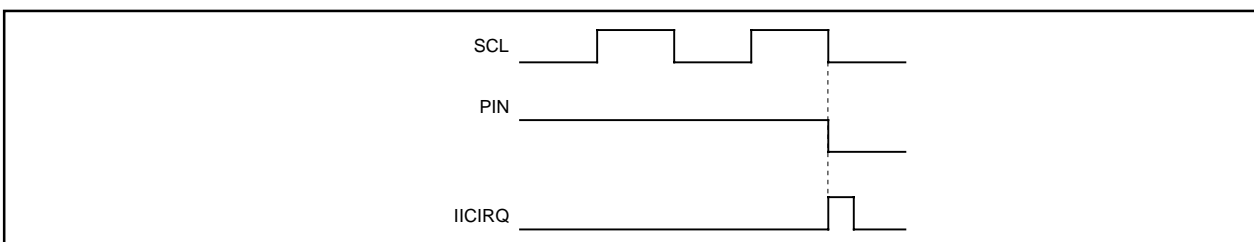

Fig. 2.11.37 Interrupt request signal generation timing
This bit generates an interrupt request signal. Each time 1-byte data is transmitted, the state of the PIN bit changes from "1" to "0." At the same time, an interrupt request signal is sent to the CPU. The PIN bit is set to "0" in synchronization with a falling edge of the last clock (including the ACK clock) of an internal clock and an interrupt request signal occurs in synchronization with a falling edge of the PIN bit. When detecting the STOP condition in slave, the multi-master I²C-BUS interface interrupt request bit (IR) is set to "1" (interrupt requested) regardless of falling of PIN bit. When the PIN bit is "0," the SCL is kept in the "0" state and clock generation is disabled. Figure 2.11.37 shows an interrupt request signal generating timing chart.